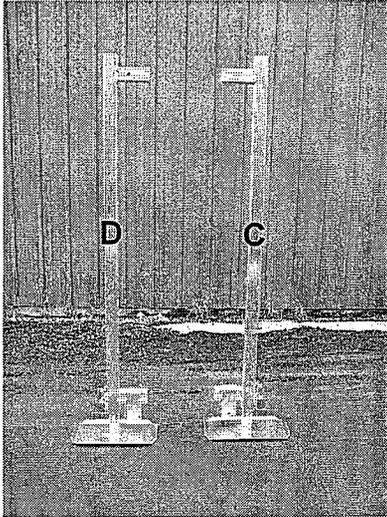

FIG. 10
1. Locate corner posts **C** & **D** shown in FIG. 10.